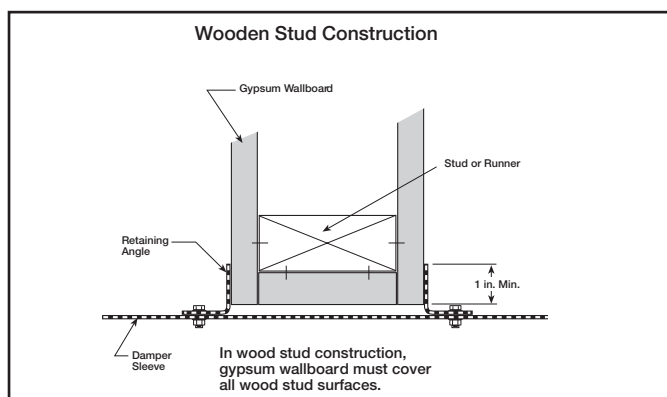

Figure 3 (2 sided angle installation shown)
- Prepare opening between studs and sleeve assembly as shown below (see **Figure 3 & 4**).